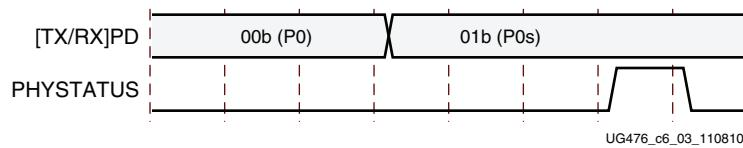

Figure 6-4: PCI Express P0 to P0s Power Transition Example
For PCI Express applications in Gen1 and Gen2 modes, the CPLL is used, and the QPLL is recommended to be powered down to save power. In Gen3 mode, the QPLL is required and the CPLL is recommended to be powered down to save power. The use mode timing diagram in Figure 6-4 shows an example of a PCI Express power down from the P0 to the P0s state.
Notes relevant to Figure 6-4:
1. The sequence of events in Figure 6-4 is not drawn to scale.